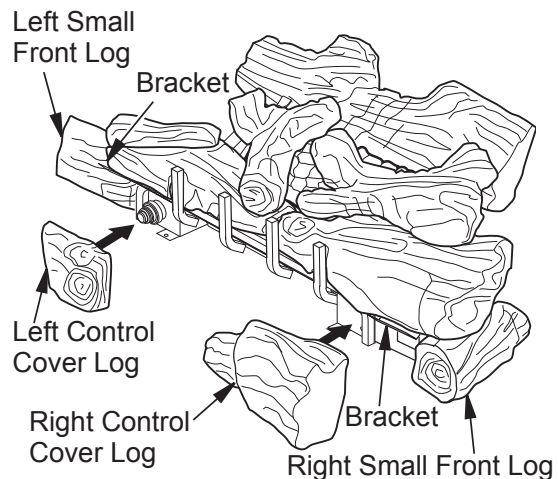

Figure 25 - Installing LBG36SM Model Control Cover Logs
7. For LTF36SM, the front right and left logs are longer and are supported with brackets on each end (see **Figure 25**). Place left and right small front logs under left bracket and beside right bracket.
8. For LBG36SM, position left and right control cover logs as shown in **Figure 25**. These may be placed as desired to hide controls.